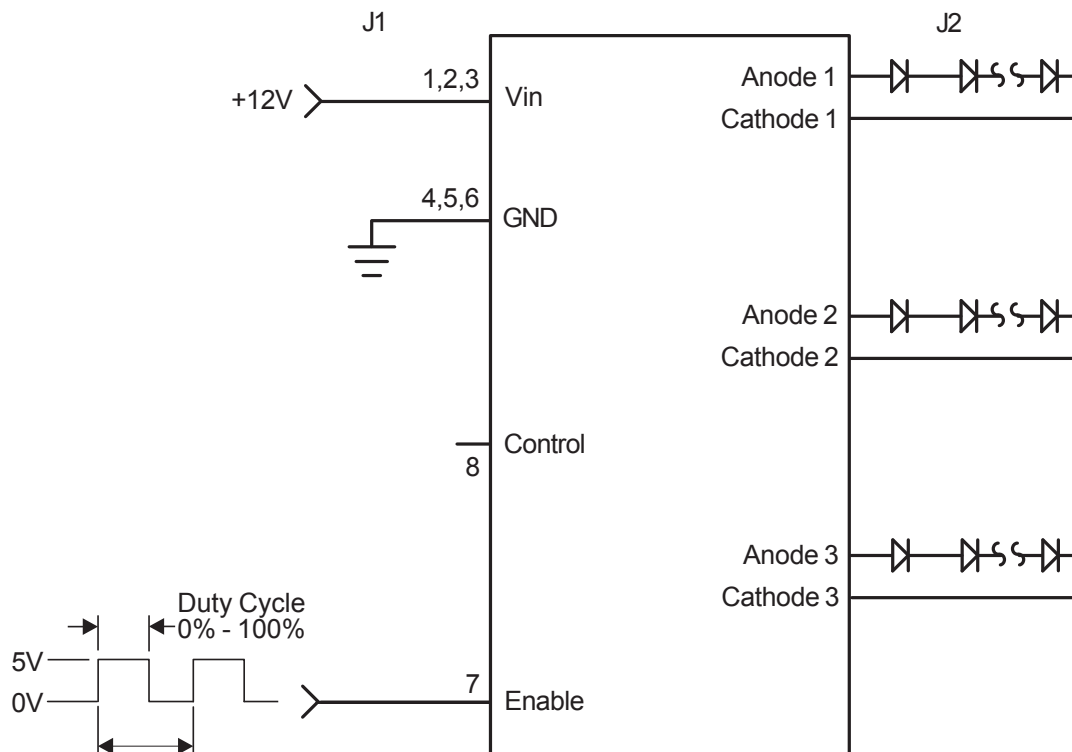

Figure 2
- OPERATION: External PWM configuration as shown in Figure 2 allows the user to control display brightness with an externally generated PWM signal. The user is responsible to provide the PWM signal. A minimum pulse width of 80 μ s is possible with this configuration.